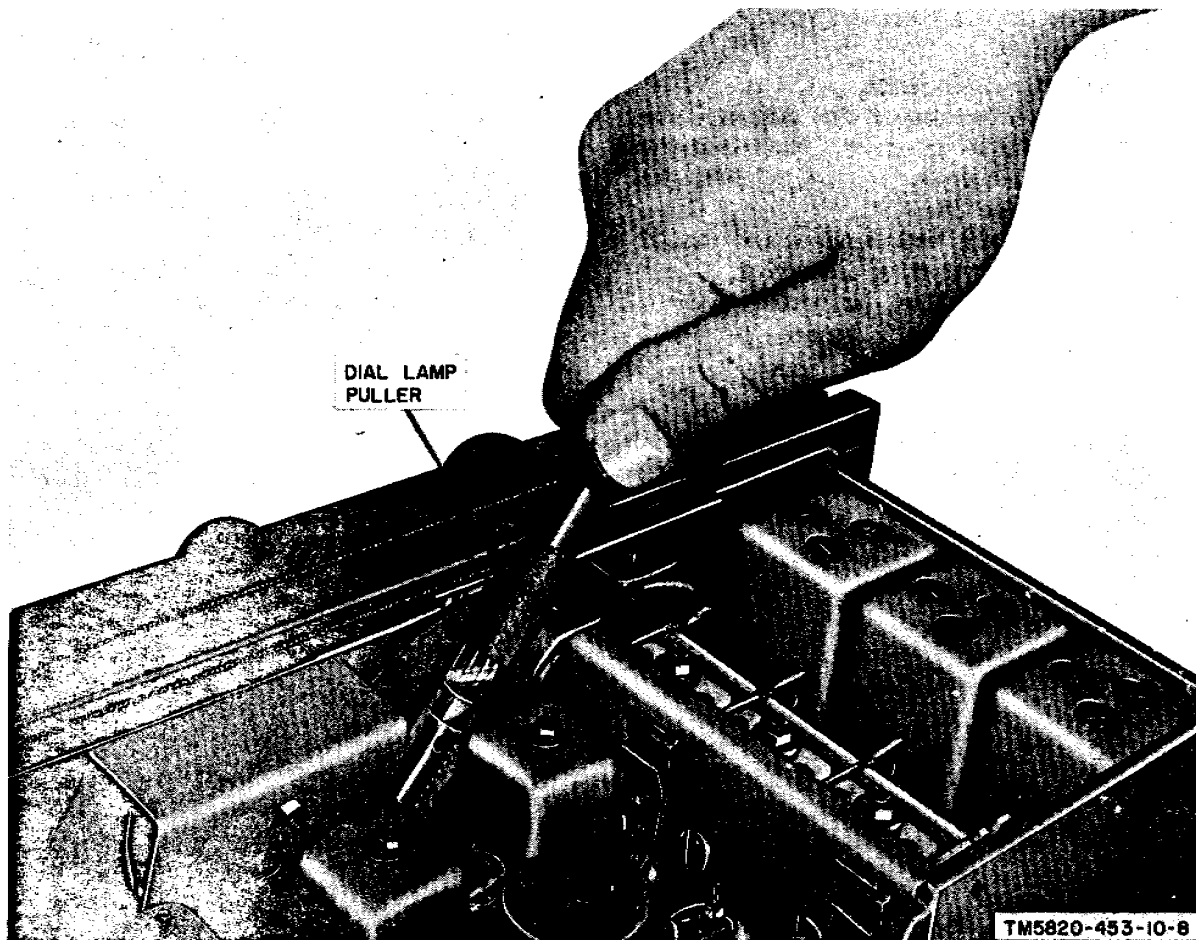

Figure 16. Receiver dial lamp removal
- (1) Release the latches that hold the receiver in place.
- (2) Slide the receiver partially out of its case to expose the defective lamp.
- (3) Press in on dial lamp; using the dial lamp puller (fig. 16), twist it counterclockwise to unlock.
- (4) Pull the defective dial lamp out and replace it with a new one (push the lamp in and turn it clockwise to lock).
- (5) Slide the receiver back into place and relatch it.